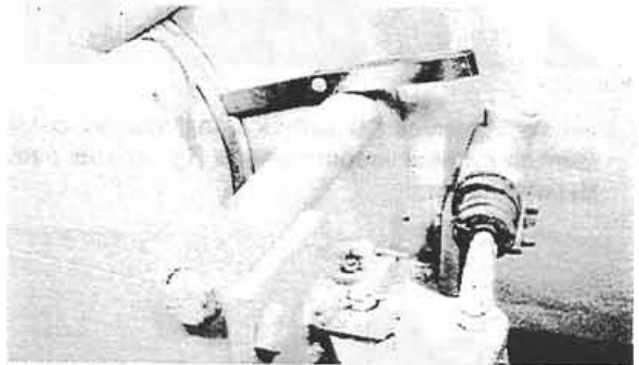

Figure 24:
6. Torque the outer brake plate capscrews to 58 lb. ft. (8.02 Kg/M). After shim removal and reassembly have been completed, the brake should be adjusted to a minimum clearance of .090 inch (2.28 MM) between the outside plate and brake disc stack by adjusting the length of the threaded rod on the slave cylinder (Fig. 24).